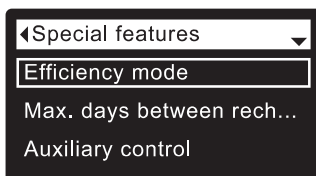

FIG. 137
5. Press the SELECT (O) button to display the Special features menu (See Figure 137).
9. Press the SELECT (O) button. The display will go back to the Special features menu (Figure 137).